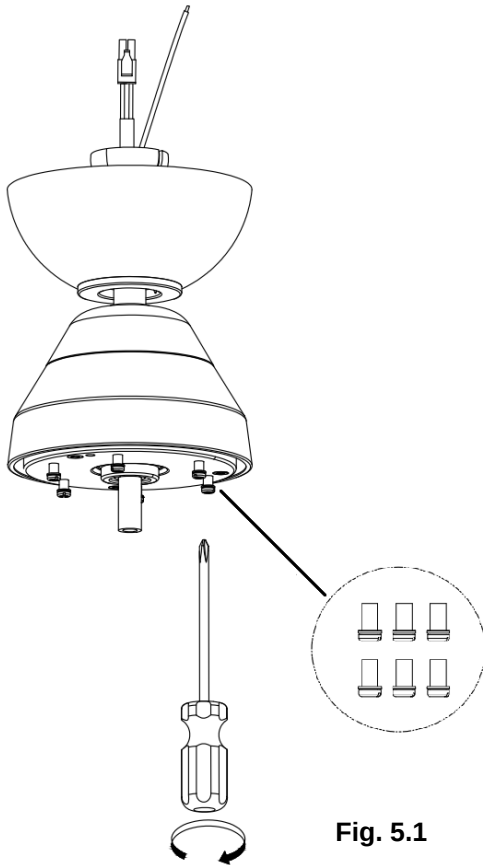
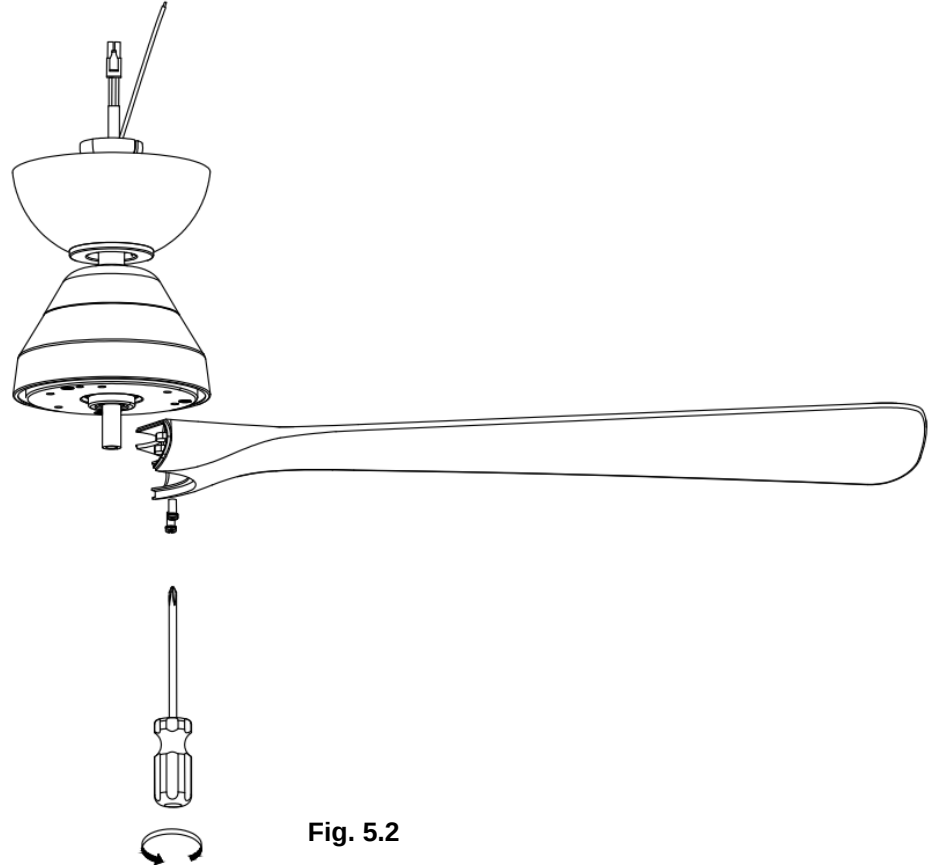

Fig. 5.1
Fig. 5.2
1. Loosen the blades screws on motor and mount the fan blade onto the fan assembly with the same set of screws. (Fig.5.1 & Fig 5.2)